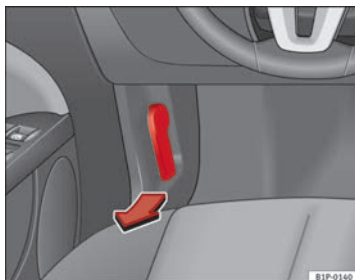

Fig. 142 Detail of foot-well area on driver side: lever for unlocking the bonnet.
- To release the bonnet, pull the lever under the dash panel ⇒ fig. 142 in the direction indicated (arrow). The bonnet will be released by a spring action ⇒ ⚠.